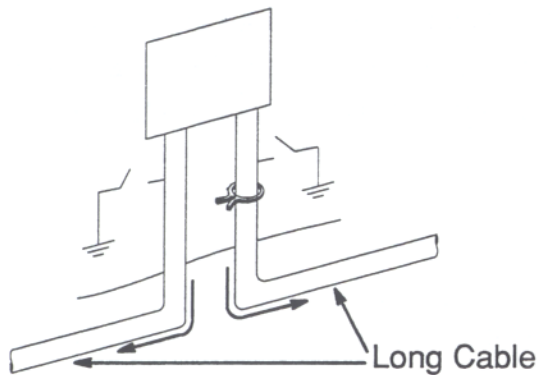

Fig. 3-5
1.11 If the cable is long, remove the bonding and tone goes both ways as in Fig. 3-5.